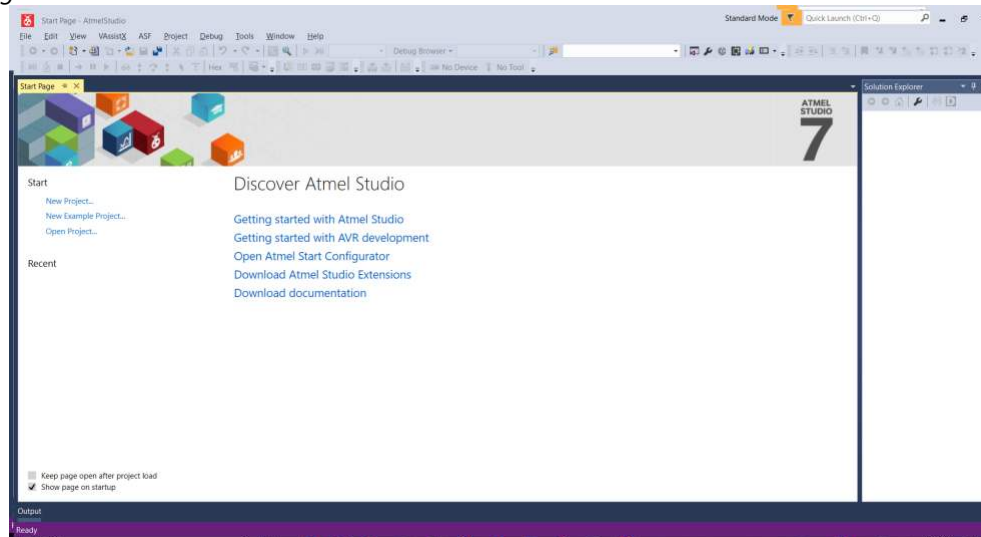

Figure 5.
3. **Launch *Atmel Studio 7*:** Once the software is launched the landing page should look similar to *Figure 5*.